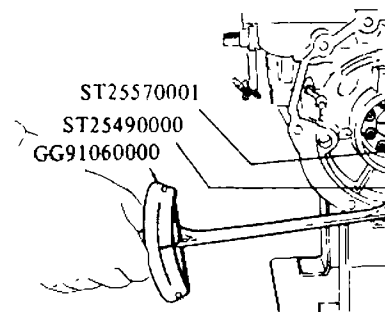

Fig. AT-69 Installing one way clutch inner race
1. After installing piston of low and reverse brake, assemble thrust snap ring, return spring, thrust washer and one-way clutch inner race. Torque hex-head slotted bolt to 1.3 to 1.8 (9.4 to 13 ft-lb), using Hex-head Torque Wrench GG91060000 Socket Extension ST25490000 (ST25512001). See Figure AT-69.